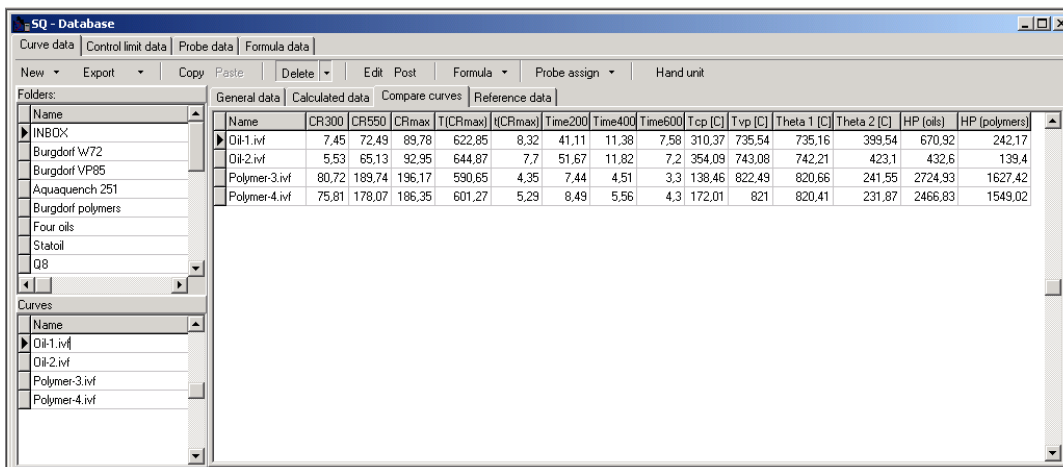

Fig. 3.4 Comparing the calculated data for the curves in one folder in the “Compare curves” window.
- **Compare curves**, which is a window where some selected characteristics are compared in table form. See Figure 3.4.